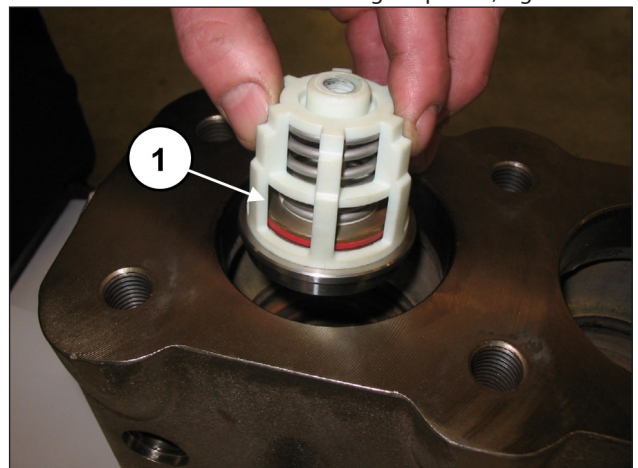
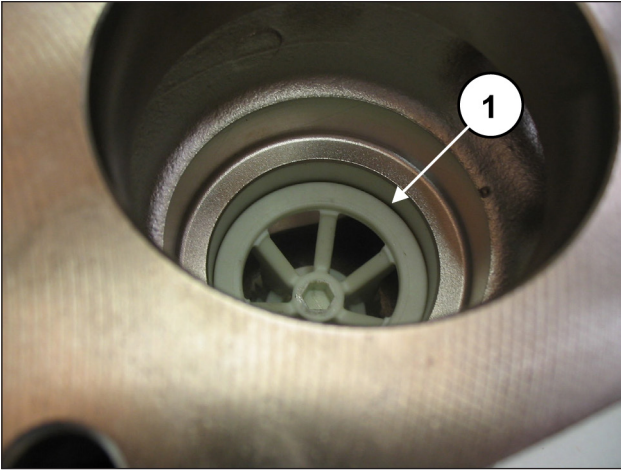

Fig. 121
Fig. 122
Insert the suction valve unit (pos. ①, Fig. 121) and then the spacer (pos. ①, Fig. 122).
The complete valve unit must be fully inserted into the bottom and should look like the image in pos. ①, Fig. 122.